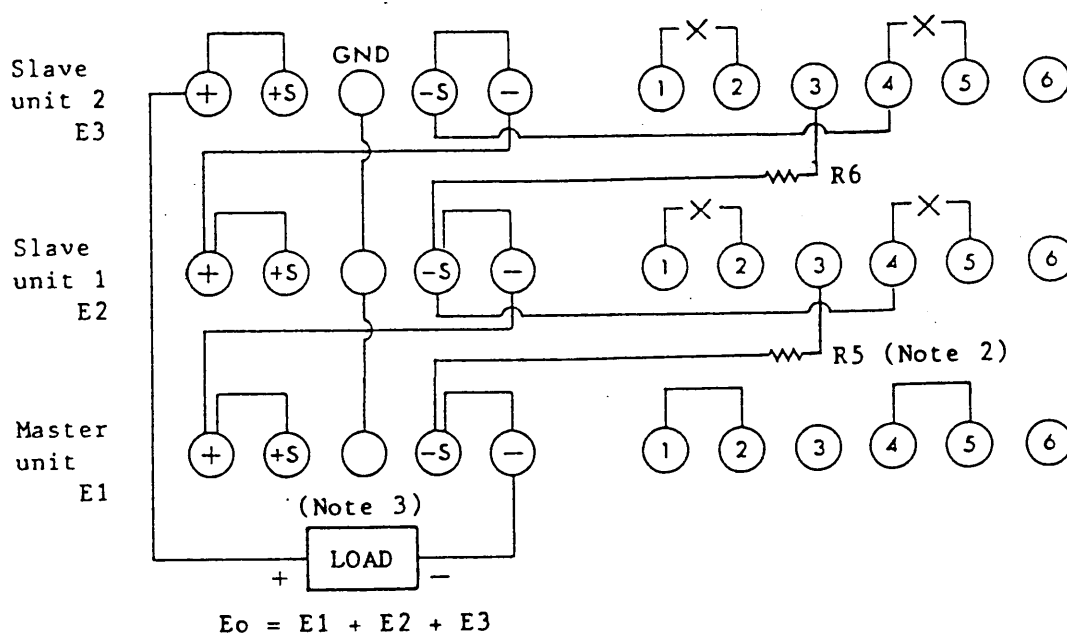

Figure 4-17
- (1) Turn off the input POWER switches of the units.
- (2) Referring to Figure 4-17, the unit at the bottom is the master unit and the other units are slave units.
- (3) Connect a resistor R5 (R6) between terminal ③ of the slave unit and terminal ③ of the unit below it as shown in Figure 4-17.
- (4) Connect in series the output terminals of all units.
- (5) Connect in common the GND terminals of all units to the required potential.
- (6) Turn the current setting potentiometers of all slave units to the clockwise extreme position.